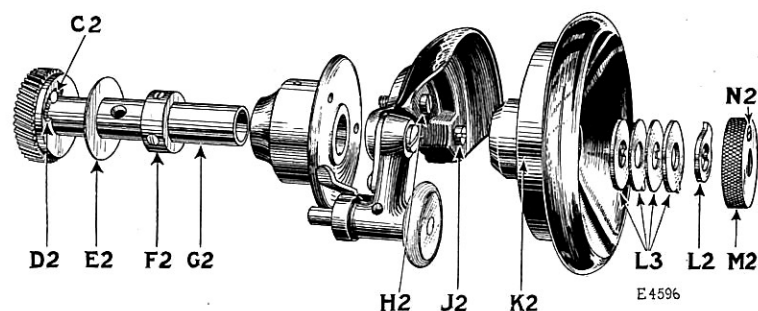

FIG. 17. VIEW OF PARTS REMOVED FROM THE MACHINE
1. Worn clutch roller (C2, Fig. 17).
2. Weakened or broken clutch spring (D2, Fig. 17). (The clutch spring should be strong enough to force the clutch roller against the bearing surface of the clutch gear).
Loosen the screw (N2, Fig. 17) in the stop motion thumb nut (M2, Fig. 17) at the right of the balance wheel and unscrew the
thumb nut (M2). Then remove the washer (L2, Fig. 17), the four washers L3, loosen the two set screws in the hub of the balance wheel and remove the balance wheel. Take out the two screws (H2 and J2, Fig. 17) which fasten the bobbin winder bracket and belt cover to the machine, and slide the bracket off the arm shaft, being careful not to spring the arm shaft. Withdraw the bushing (G2, Fig. 17)
upon which the gear clutch is mounted, then loosen the two set screws in the collar (F2, Fig. 17, page 18) and slide the collar and washer (E2, Fig. 17) away from the gear clutch. Remove the roller (C2, Fig. 17) and spring (D2, Fig. 17) and thoroughly clean the spring and roller bearing in the gear clutch.
Replace the spring and roller in the bearing in the gear clutch, being careful to see that the spring bears evenly against the roller. Place the washer (E2, Fig. 17) as closely as possible to the gear clutch without causing the gear to bind, then fasten the collar against the washer (E2) by means of the two set screws.
Replace the bushing (G2, Fig. 17) on the arm shaft. Then replace the bobbin winder bracket and belt cover and firmly fasten it by means of the two screws (H2 and J2, Fig. 17). Replace the balance wheel and before tightening it, slip washers (L3, Fig. 17) over the end of the arm shaft in the following order: first, the thick washer with inside key in keyway of arm shaft; second, the thin washer with outside key in keyway of balance wheel; third, the thin washer with inside key in keyway of arm shaft; fourth, the thick washer with outside key in keyway of balance wheel. Next slip washer (L2, Fig. 17) over the end of arm shaft with the key in the keyway of the shaft. Then replace the stop motion thumb nut (M2, Fig. 17) and screw it on the shaft as far as it will go, after which tighten the screw (N2, Fig. 17) in the stop motion thumb nut. See that the screw (N2) does not bear on the projection on the outside of the washer (L2), also that there is sufficient clearance between the projection and the screw to release the balance wheel, or to lock it by means of the stop motion thumb nut. If the screw (N2) bears on the projection, or there is not sufficient clearance, loosen the screw (N2), remove the stop motion thumb nut and reverse the position of the washer (L2) on the shaft, then replace the stop motion thumb nut and firmly tighten the screw (N2).